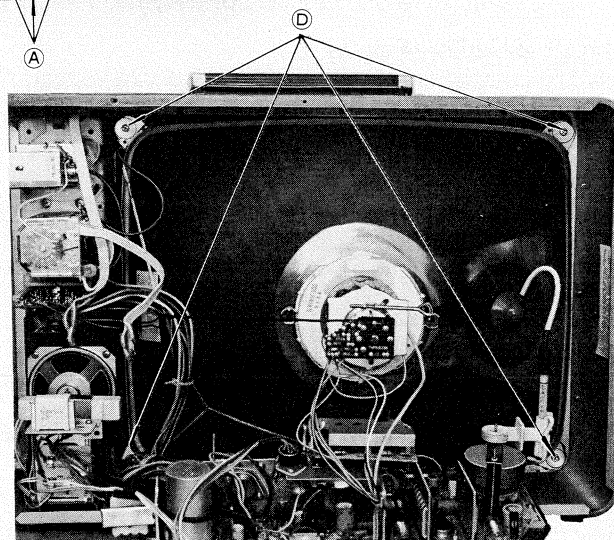

Fig. 8.
- (1) Remove the rear cover and the Main circuit board.
- (2) Remove 4 mounting screws (D) shown in Fig. 8.